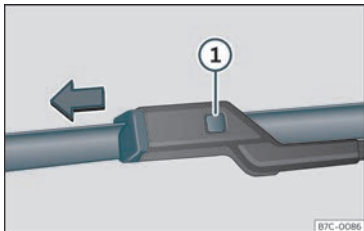

Fig. 45 Changing the windscreen wiper blades
- Press and hold release button >>> Fig. 45 ① and pull gently on the wiper blade in the direction of the arrow.